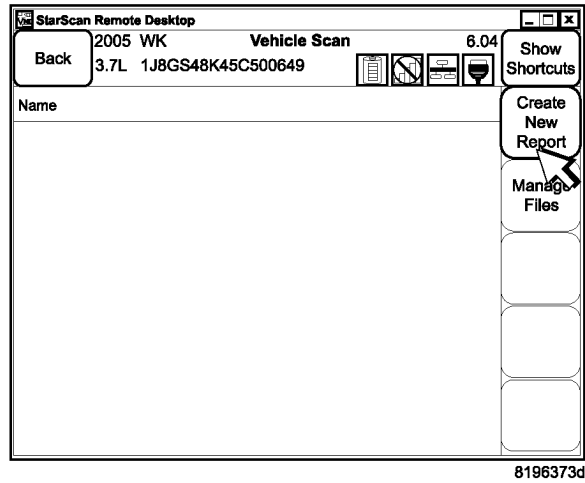

Fig. 4 VEHICLE SCAN SCREEN
5. The following screen shows an empty Vehicle Scan screen (since there are no previous reports). Select “Create New Report” (Fig. 4).